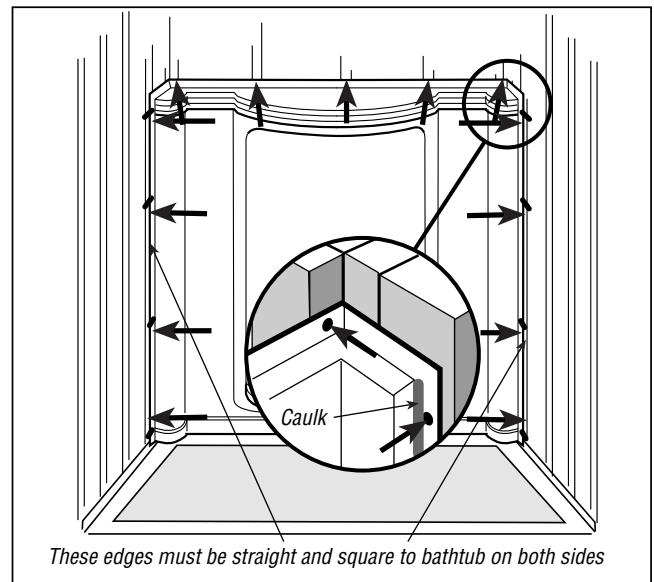

Figure 4
- 2** Position the three panels as they will go into the alcove. **Note: When in position against the back wall studs, the front nailing flanges on the back panel must be straight and square with the bathtub (Figure 4).** Horizontal nailing flanges will be located at the top of all three panels. Decide which side panel will need cutouts for plumbing fixtures. Carefully locate, mark and cut holes using the proper size hole saw.
- 5** Locate and drill a 3/16" hole in the center of the nailing flange at the top of the panel and centered on each stud (Figure 4). **Check that the vertical nailing flanges on both sides are straight and square with the tub (you may need to manually bend the nailing flanges to straighten).** Also drill four evenly spaced 3/16" holes on the front nailing flange on each side. Hammer 3/4" galvanized roofing nails through each hole and into the studs, securing the wall panel. Add a bead of latex/acrylic caulk down the vertical corner of the back panel (Figure 4).